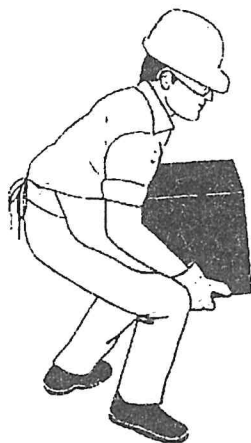

Fig. 6(c)
- (b) Describe the purpose of extra oxygen intake after intense physical activity. (5)(CO1)
- (c) In ergonomic design, lighting plays a critical role in ensuring visual comfort, safety, and productivity. Suppose you are tasked to design the lighting of a confined production facility where natural lighting is barely available. Apply your insights to develop a proper lighting plan for the facility. (15)(CO2)
6. (a) Discuss the health effects of manual material handling (MMH) on the human body. (5)
- (b) Contrast among the biomechanical, physiological and psychophysical approaches of assessing manual material handling tasks. Which one seems more practical and straightforward to use in real life to you? (15)
- (c) Suppose you have to assess the posture of a high-frequency job performed by workers at a warehouse. The posture is shown in Fig. 6(c). The following information is available regarding the job. (15)